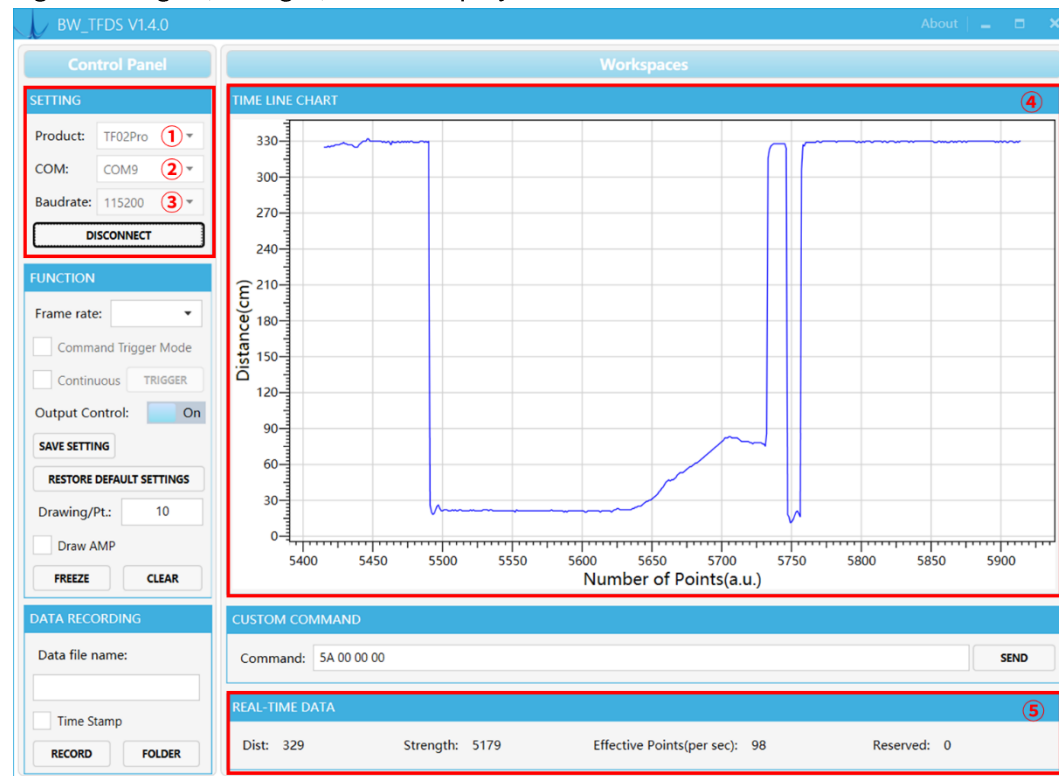

Figure 5-2 BW_TFDS software interface and display
Run the BW_TFDS software, select “① TF02-Pro” and select automatically recognized communication port (here it is “② COM9”), choose the right baud rate (here it is “③ 115200”), as shown in Figure 5-2.